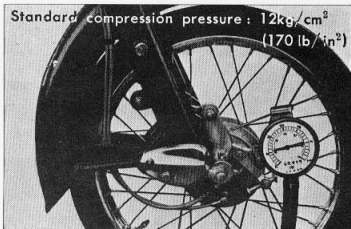

Figure 6-2. Standard compression pressure
- d. The standard specified cylinder compression pressure is 12kg/cm^2 (172 lb/in^2). (Fig. 6-2)